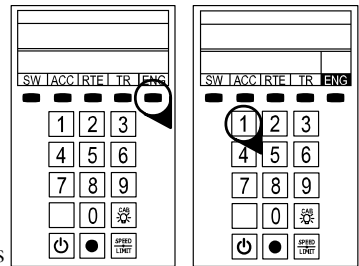

Figure 1. LEGACY engine selection
4. As illustrated in Figure 1, press ENG and 1 (or your selected ENG ID#) to address the locomotive set with your LEGACY CAB-2 Remote Controller.